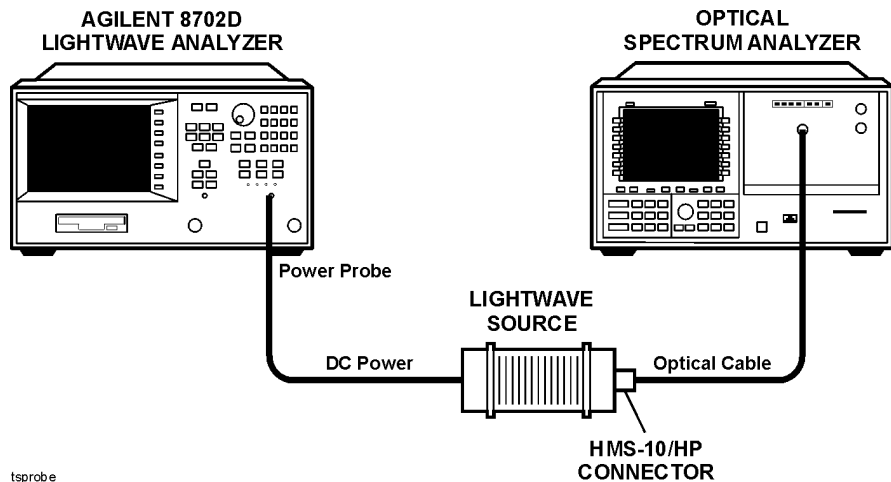

Figure 4-1. Center wavelength and spectral width test setup
- 1 Connect the equipment as shown in Figure 4-1.